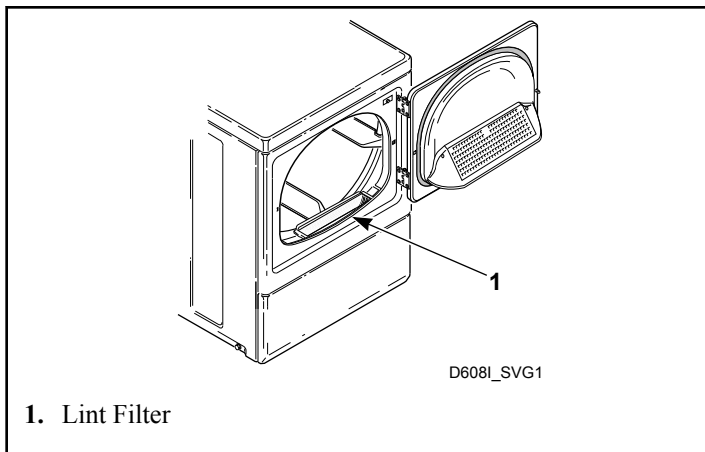

Figure 52
**CLEAN THE LINT FILTER BEFORE DRYING EACH LOAD.** (Refer to *Figure 52* for lint filter location.) Cleaning the lint filter is important because a layer or pad of lint on the filter will block the flow of air through the dryer, thus reducing the efficiency of the dryer. The clothes will take longer to dry and energy will be wasted.